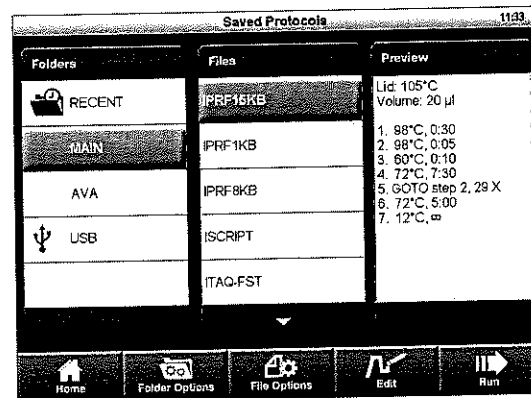

Fig. 6. Saved Protocols screen showing the preinstalled library of standard protocols in the MAIN folder.
- In the Home screen, touch **Saved Protocols**. The T100 cyclizer organizes all the protocols into folders. A preinstalled library of standard protocols is in the MAIN folder (Figure 6).